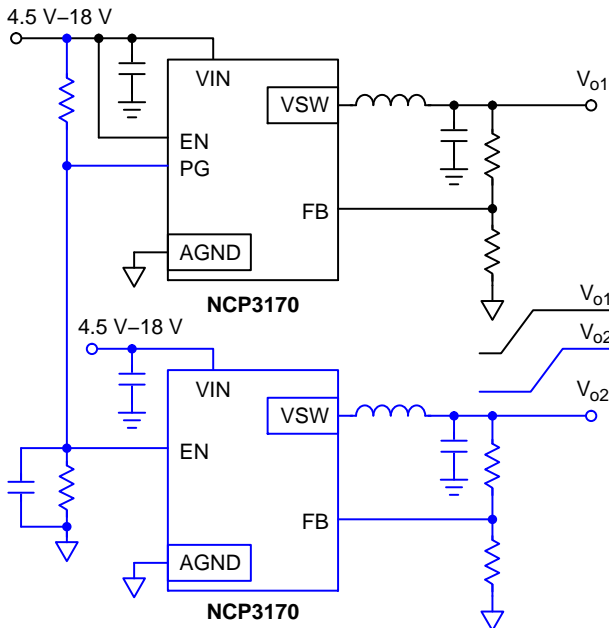

Figure 33. Enable Two Converter Power Sequencing
The enable can also be used for power sequencing in conjunction with the Power Good (PG) pin as shown in Figure 33. The enable pin can either be tied to the output voltage of the master voltage or tied to the input voltage with a resistor to the PG pin of the master regulator.